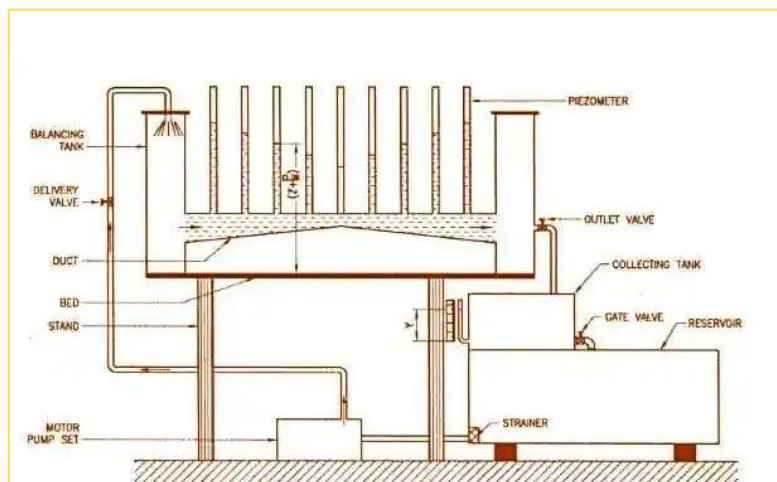

Figure 5: Bernoulli experiment setup
- Calculate the pressure head, velocity head, and datum head, and verify the Bernoulli's Theorem shown in figure 5.